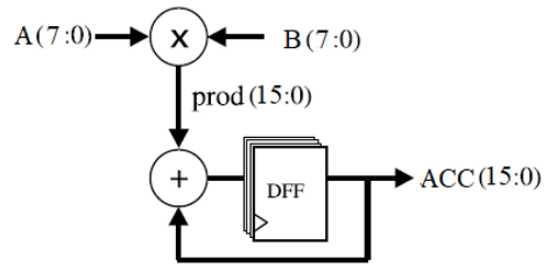

Figure 4: MAC circuit
- Draw clouds on the waveform with explanations of what is happening (Figure 4).